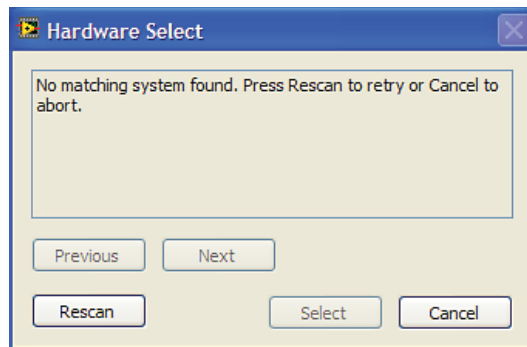

Figure 2. Connectivity Error Alert
2. If the evaluation system is not connected to the USB port when the software is launched, a connectivity error displays (see Figure 2). Connect the evaluation board to the USB port of the PC, wait a few seconds, and click **Rescan**. Follow the instructions that appear.